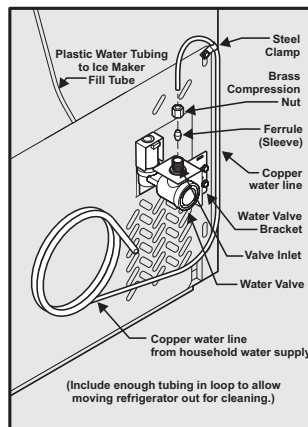

Figure 1
4. **If you use copper tubing** - Slide brass compression nut, then ferrule (sleeve) onto water supply line. Push water supply line into water valve inlet as far as it will go (¼ inch / 6 mm). Slide ferrule (sleeve) into valve inlet and finger tighten compression nut onto valve. Tighten another half turn with a wrench; **DO NOT** over-tighten. See Figure 1.